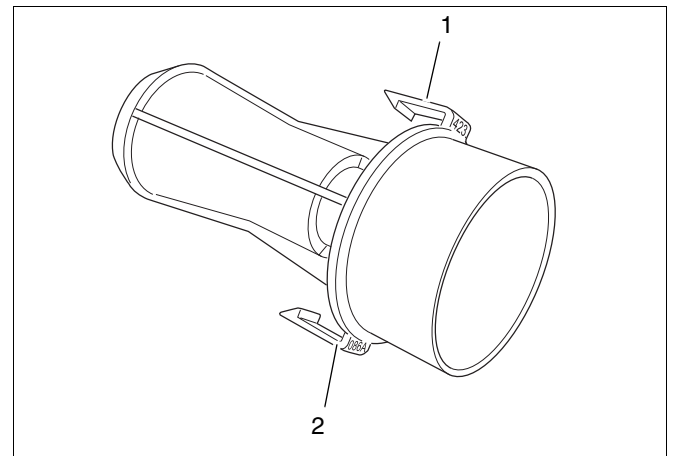

Fig. 51 Venturi article number
- The venturi article number is marked on both clips of the venturi (see fig. 51, pos. 1 and 2).